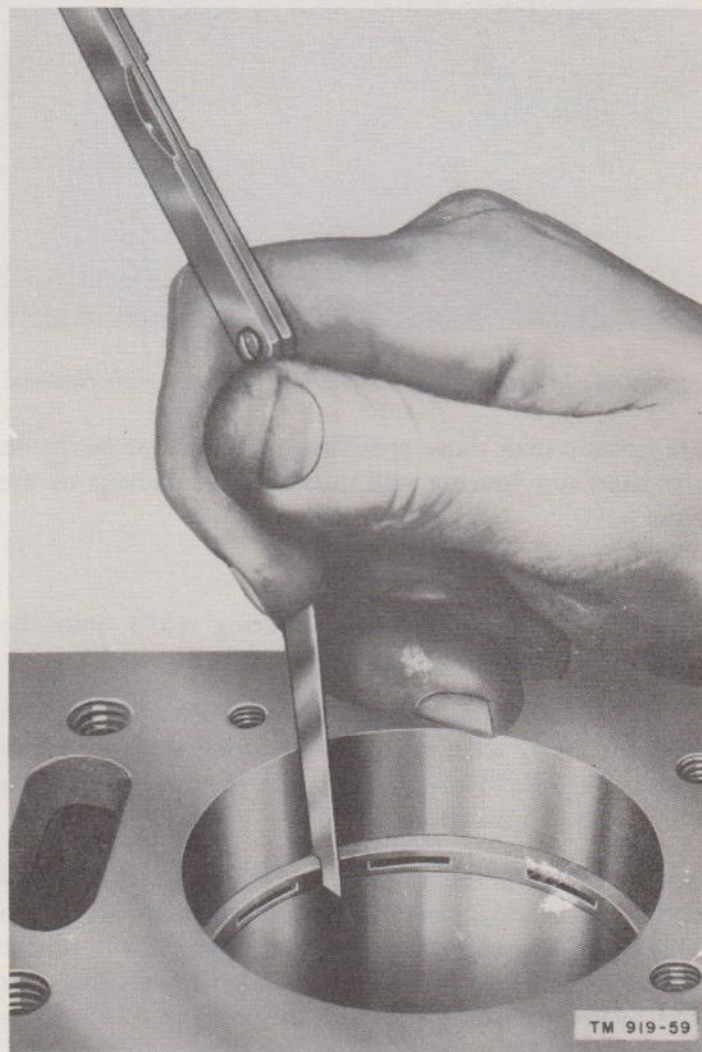
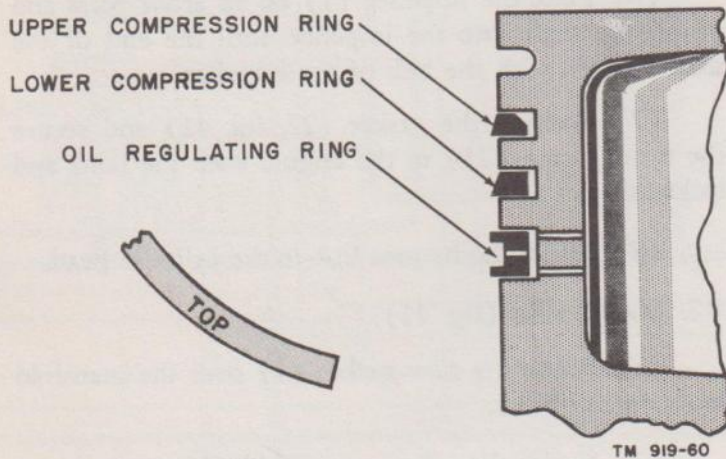

Figure 59. Measuring piston ring gap.
Figure 60. Piston ring installation.
(1) Refer to paragraph 58g(16) and check the piston clearance as instructed.
(2) Check the piston ring gap as follows: Push the ring into the cylinder with a piston. Check the end gap with a feeler gage as shown in figure 59. The end gap should be .008 inch to .013 inch. Check each piston ring individually.
(3) Check the piston ring groove clearance. Groove clearance of the upper compression ring should be .002 inch to .004 inch; that of the lower compression ring should be .0015 inch to .0035 inch. Clearance of the oil regulating ring should be .001 inch to .0025 inch.
(4) Clamp the connecting rod in a vise; use vise jaw shields of soft metal or hardwood. Start the piston pin into the piston with the lockscrew groove facing down. Assemble the piston to the connecting rod with the slot in the piston on the opposite side from the oil spray hole in the bearing end of the rod. Install the piston pin lockscrew and lockwasher. Refer to paragraph 58g(13) and check the alinement of the connecting rod as instructed.
(5) Use a conventional ring tool and install the rings on the pistons as follows: Position the upper compression ring with the inside beveled edge toward the top as shown in figure 60. The face of the lower compression ring is tapered .001 inch and the letters T or T-O-P on the upper edge (fig. 60) indicate how the ring should be installed. Install the rings with the ring gaps staggered around the piston.